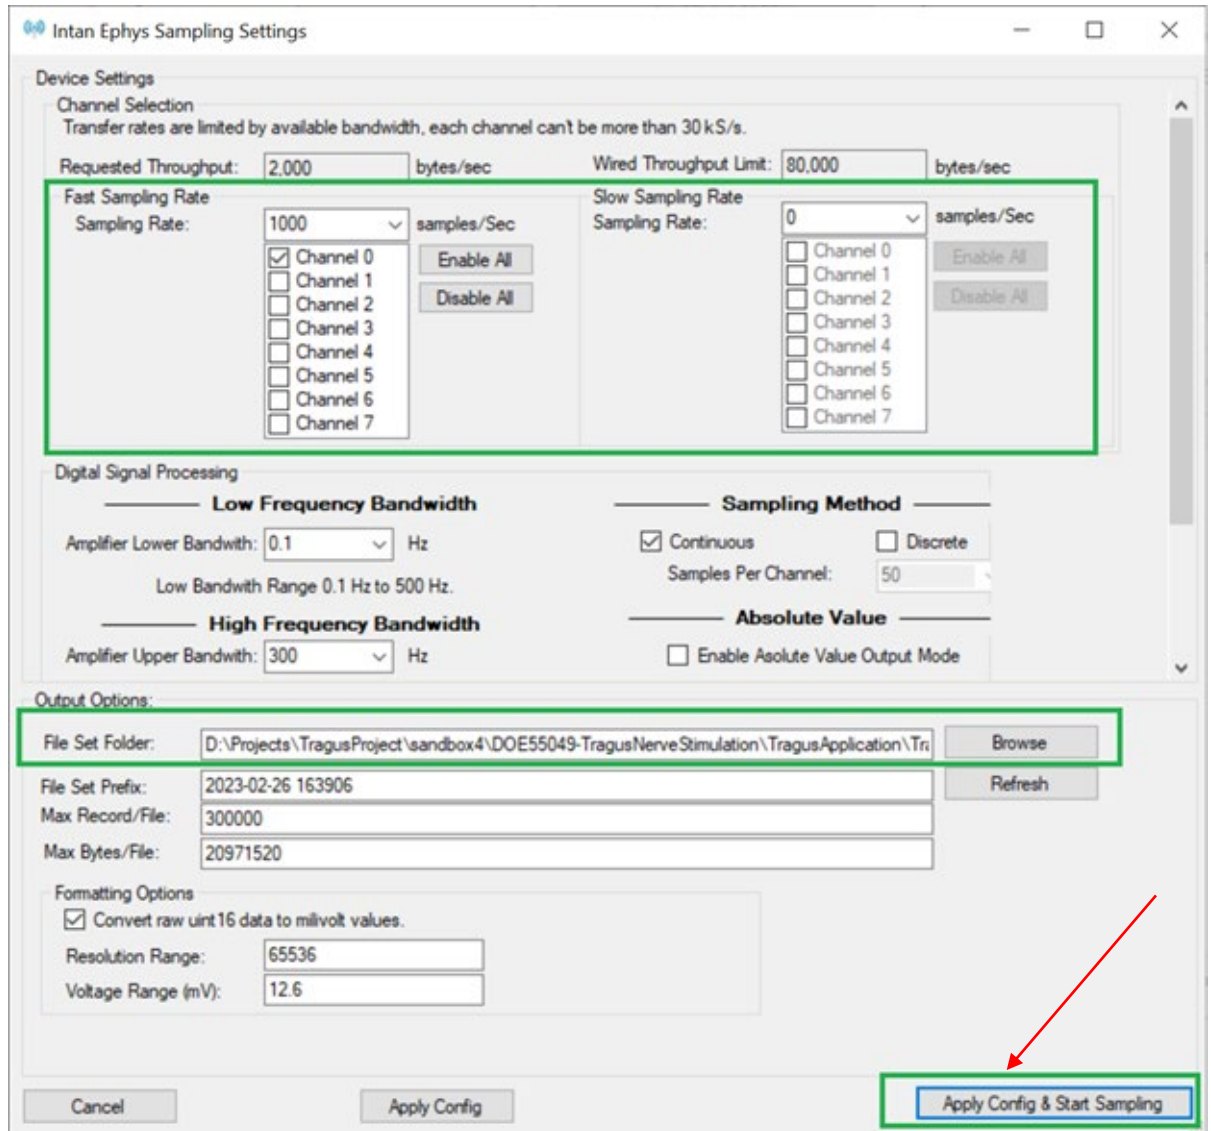

Figure 17: Configure & Start Sampling Button
10. If desired, browse to select a folder where the recorded data files will be stored (Shown in 2nd green box of Figure 17 below).
11. Click **Configure** or **Start Sampling** (Shown in the 3rd green box of Figure 17 below).